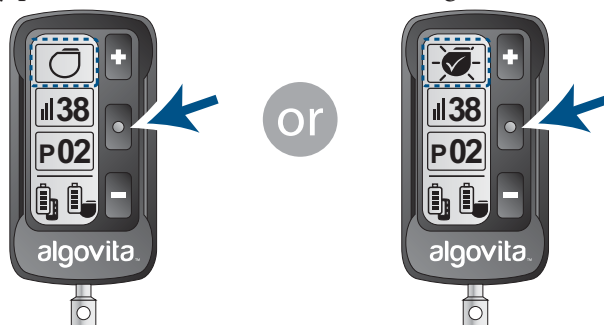

Figure 37. Selecting the Stimulation On or Stimulation Off icon
1. Repeatedly press  until  or  blinks (*Figure 37*).